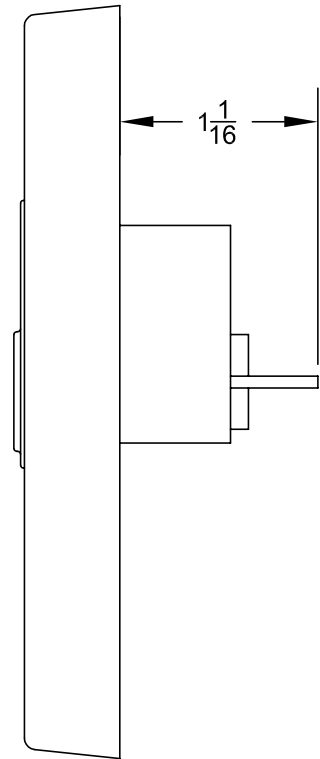

Fig. 1
1. Insert a rim cylinder (not included) and cut rim cylinder tailpiece as described in Fig. 1.